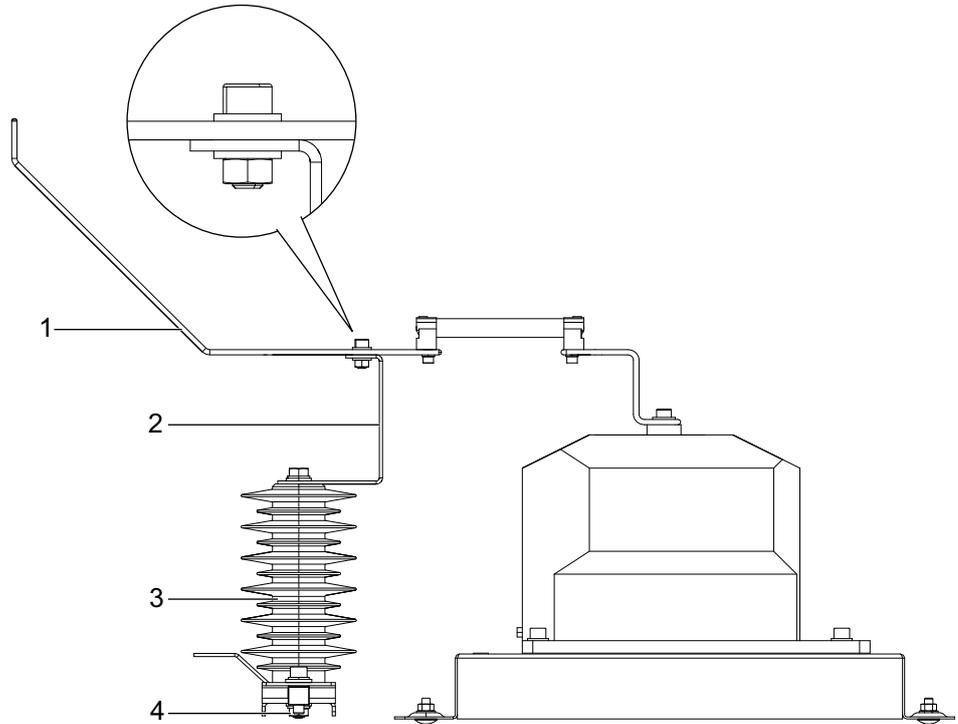

Figure 56
1. Unscrew the M12 screws (4) provided on both sides. Refer to Figure 56.
2. Remove the terminal copper bar (2) from the VT connection copper bar (1).
3. Remove the surge arrester (3). Refer to Figure 56.